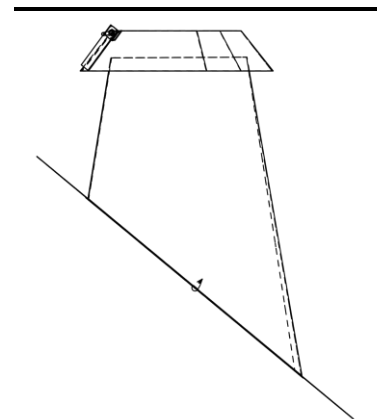

FIGURE 24 STORM COLLAR POSITION
8. Place the storm collar over the chimney and flashing (see Figure 24). Seal the collar to the chimney with silicone (high temperature not required).